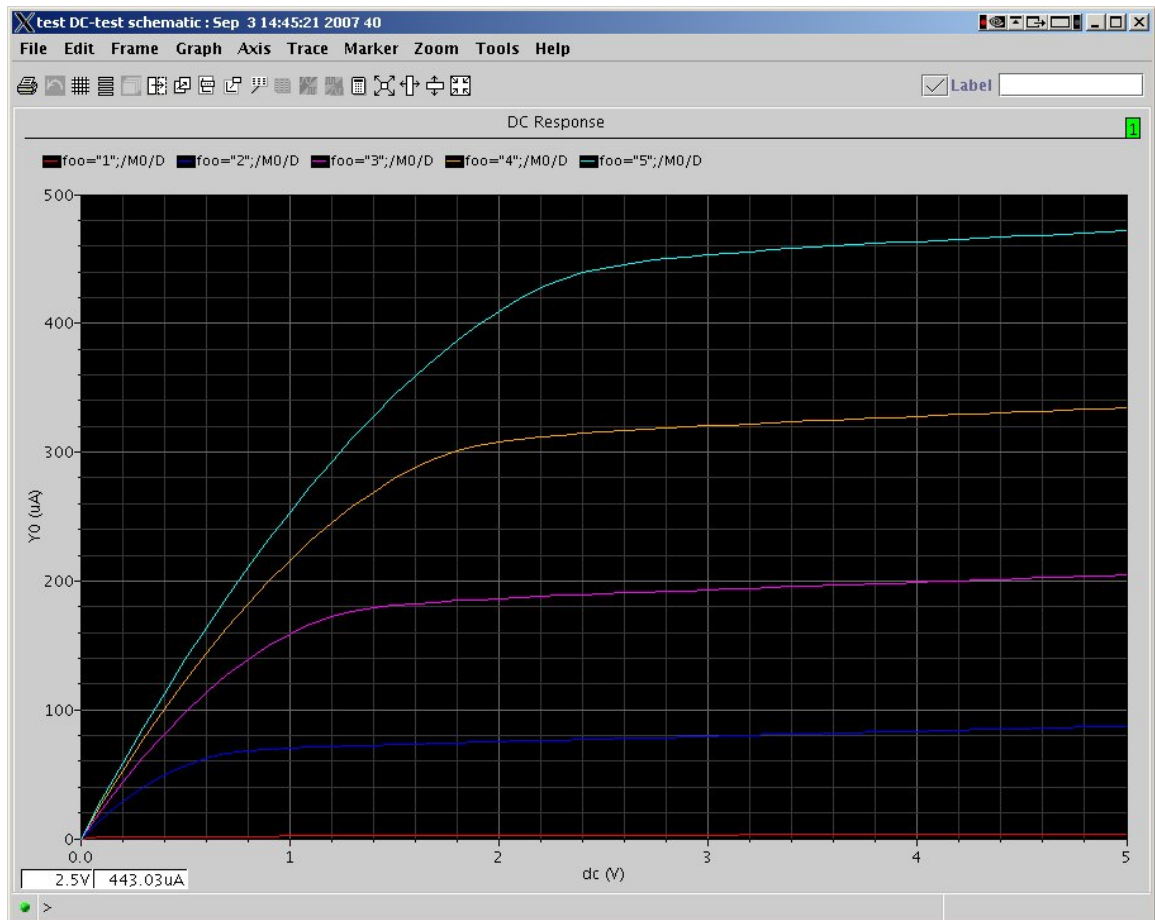

Figure 6.35: Output of parametric DC simulation with five curves
9. Now choose **Analysis** → **Start** and all five simulations will run, and the results will be plotted in a single waveform window. The result looks like Figure 6.35. Note that the parameters that were used on each run (the value of **foo** in this case) are shown in the legend at the top of the graph.